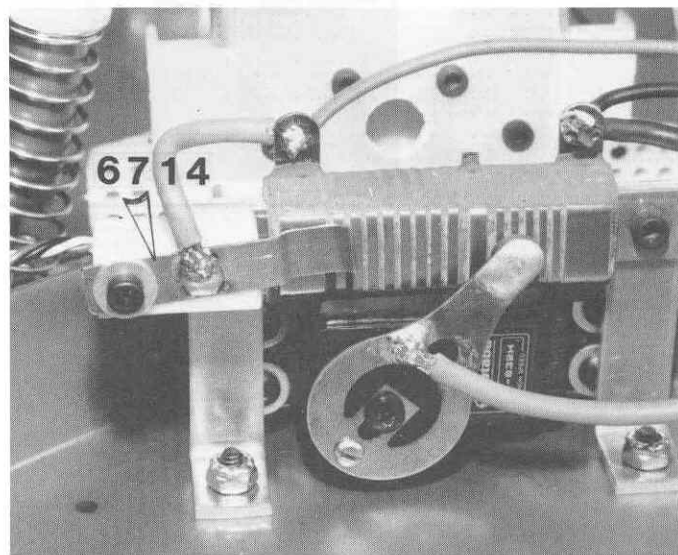

Fig. 175
□ **Fig. 175** Take the bypass and install it to the bypass mount with a 1/2" long Allen screw and washer as shown. Locate the indented portion of the bypass right in the center of the wide bank of the resistor. Solder the bypass wire from the resistor to the arm. This photo shows where the wiper arm should be in the off throttle or brake position. On this side of the resistor are the brake bands.